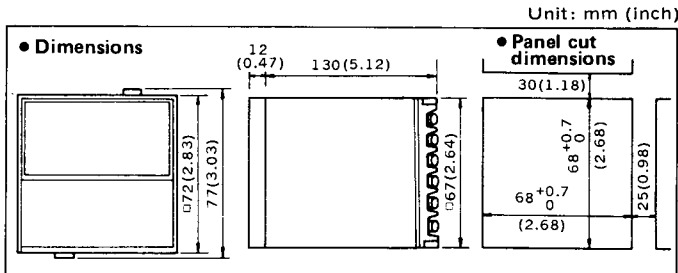

Fig. 1
(1) Mounting
- Make a square cutout on panel by referring to the panel cutout dimensions. (Fig. 1)